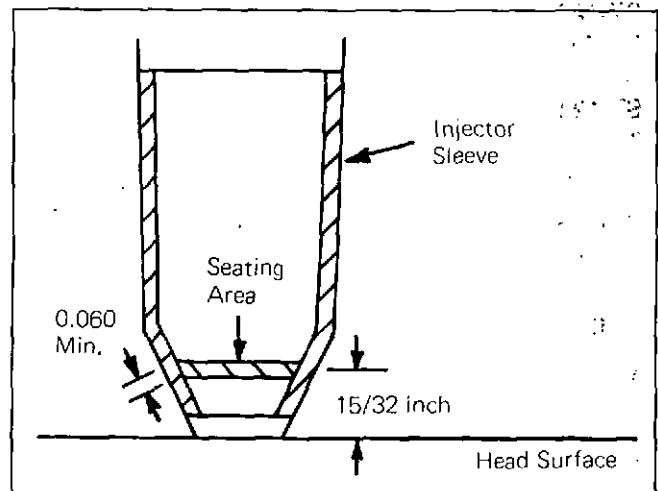

Fig. 2-23 (N10298). Cross-Section Of The Injector Sleeve.
2. Remove the injector and check the pattern of the blue compound in the sleeve. The pattern in the sleeve must be a minimum of 0.060 inch [1.52 mm] wide and 0.469 inch [11.91 mm] from the bottom surface of the cylinder head, Fig. 2-23. If the sleeve does not meet those specifications, it must be replaced.